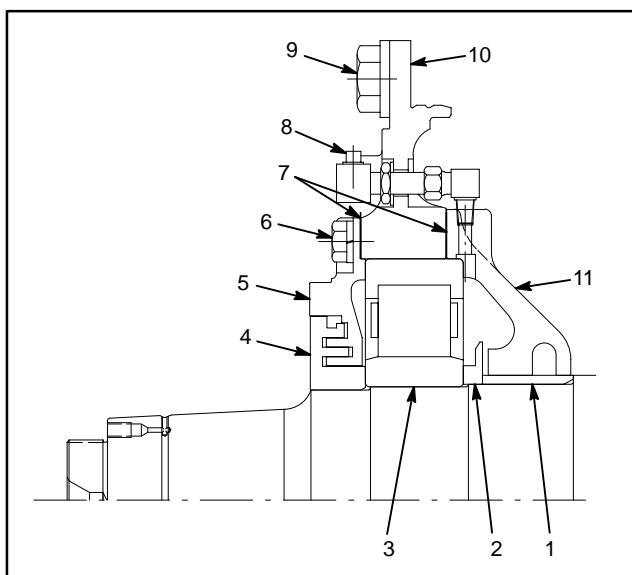
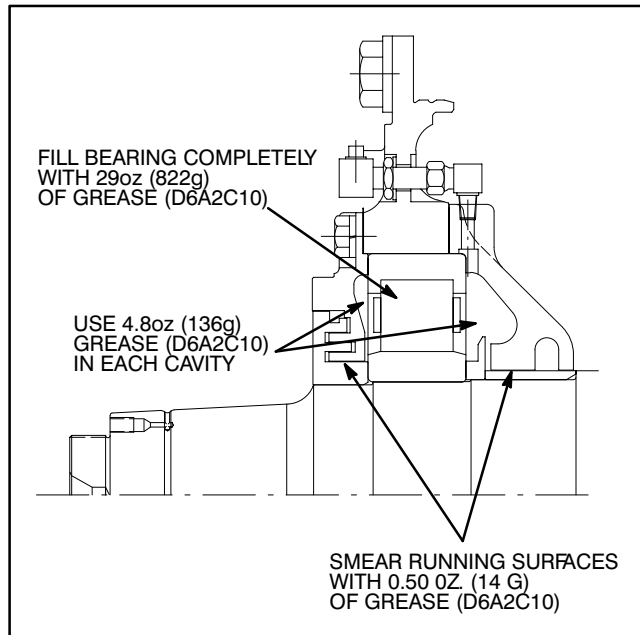
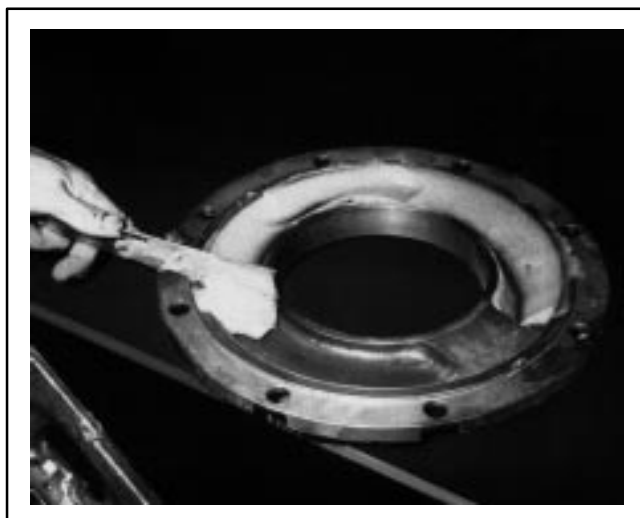

FIG. 13. DRIVE-END BEARING DETAILS.
FIG. 14. DRIVE-END BEARING GREASE DISTRIBUTION. E-45100.
FIG. 15. APPLYING GREASE TO DRIVE-END INNER BEARING CAP. E-27156.
**NOTE: Numbers in parenthesis () refer to part numbers in Fig. 13 of this publication, unless otherwise noted.**
- Remove the eight bolts (6) and flat washers from the outer bearing cap insert (5).
- Support the weight of the drive-end frame head (10) with a hoist, taking care not to lift the rotor off its support. Assemble the bearing puller (GE Tool 41D736059G2); and use the hydraulic jack to pull the frame head, roller bearing (3), bearing flinger (2), outer bearing cap (5), outer sleeve (4), and inner bearing cap (11) from the rotor shaft.
**NOTE: Remove the collar (1) only if damaged, if outside of inspection limits, or if the shaft must be removed from the rotor. If necessary, use a puller tool to remove the collar.**
**NOTE:** Numbers in parenthesis () refer to part numbers in Fig. 13 of this publication, unless otherwise noted.
2. If removed, heat the rotor drive-end collar (1) to 212°F (100°C) in an oven. With the rotor in the horizontal position, apply the heated collar to the rotor shaft, seating tightly against the rotor shaft shoulder, and secure the collar in position until cooled.
3. Smear the inside diameter of the rotor drive-end inner bearing cap (11) with GE Specification D6A2C10 grease (Fig. 14), and pack the inner cavity of the bearing cap with 4.8 oz. (136 g) of the grease (Fig. 15). Install the inner bearing cap over the collar.
4. Heat the rotor drive-end bearing flinger (2) to 212°F (100°C) in an oven. Apply the heated flinger to the rotor shaft, seating tightly against the collar (1), and secure the flinger in position until cooled.
5. Heat the inner race of the rotor drive-end roller bearing (3) to 212°F (100°C) in an oven. Apply the bearing inner race to the rotor shaft, seating
7. Cold-press the rotor drive-end bearing outer race and rollers (3) into the drive-end frame head (11). Refer to Fig. 14 for the approximate bearing race position in the frame head.
**NOTE: Numbers in parenthesis () refer to part numbers in Figs. 13 and 14 of this publication.**
2. Pack the drive-end outer bearing cap insert (5) with 4.8 oz. (136 g) of GE Specification D6A2C10 grease. Assemble the bearing cap insert to the drive-end frame head (10) and inner bearing cap (11) with eight bolts and flat washers (6), and tighten the bolts to the torque given in **TORQUE VALUES** section of this publication.
3. Heat the outer sleeve (4) to 110\_ C (230\_ F) and shrink it onto the shaft until it is tight against the inner race of the bearing.